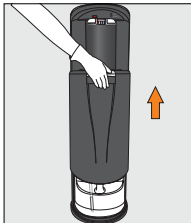

Figure 13
1. Open Dispenser door (Figure 13). (Slide door upwards to allow access to bottle area)